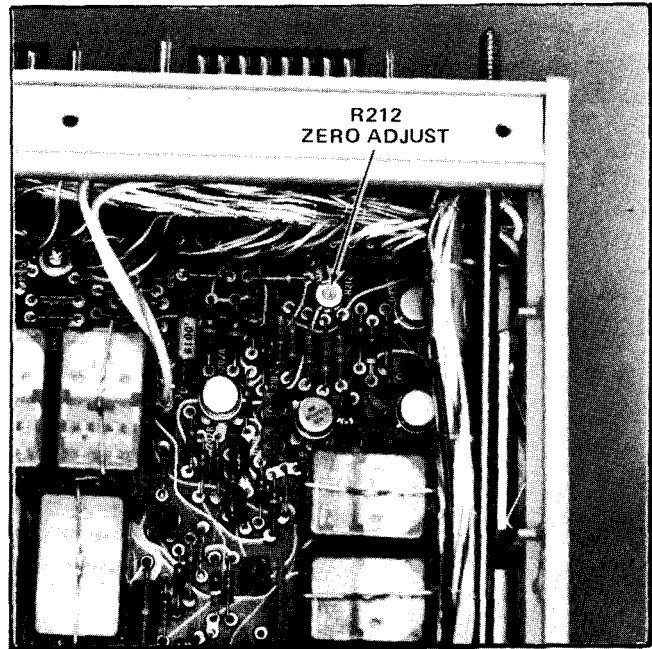

Fig. 5-2. Location of R212 on 176 bottom side.
d. Turn R212 (ZERO ADJUST) on the bottom side of the instrument (see Fig. 5-2) throughout its range. Note that the spot moves to the operator right of the center vertical graticule line, but not to the left of center. Set R212 so that the spot is to the right of the centerline. Now turn R212 in the opposite direction until the spot is just on the center vertical graticule line.